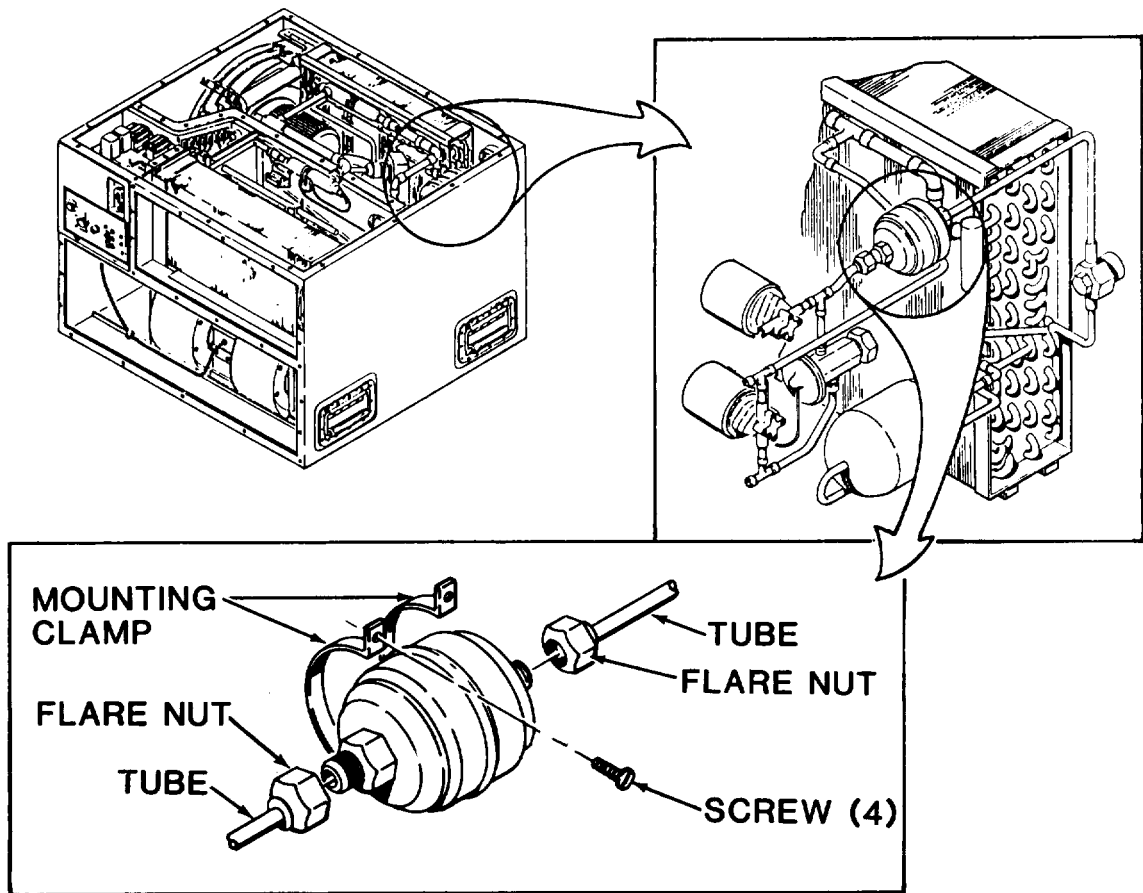

Figure 5-19. Dehydrator (Filter/Drier)
a. Removal. (See fig. 5-19.)
- (1) Disconnect power at power source.
- (2) (Models F18H-3S and F18H-1S) Remove top rear cover (para 4-11). (Models F18H-3SA and F18H-3SB) Remove top cover (para 4-11).
- (3) Discharge and purge refrigeration system per paragraphs 5-11 and 5-12.
- (4) Remove four screws and two mounting clamps.
- (5) Disconnect two flare nuts and remove dehydrator from unit.